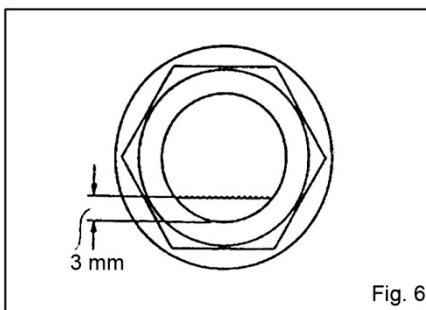

Fig. 6
- ① Just before the oil level, which can be visible in the oil gauge window, is decreasing lower than 3 mm when the power tool is held upright, feed oil without fail. (Fig. 6)
- ② Before feeding oil, use the provided wrench to remove the oil gauge. Be careful not to lose the rubber packing attached below the oil gauge.
- ③ After feeding oil, securely clamp the oil gauge.
- ④ Check the oil level once a day, confirming that oil is filled.